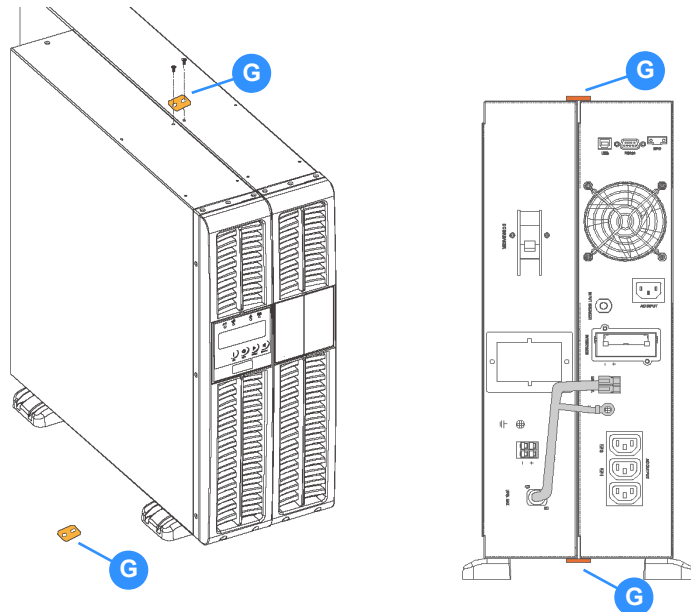

Figure 3.12 Combined tower installation
Figure 3.12 shows the method used to join the battery cabinet to the UPS cabinet. This entails fitting a small cabinet attachment link (G) between the cabinets at the top and bottom and only fitting the feet to the cabinets' outer-edge. Proceed as follows:
Remove the centre screws from mid-way along the cabinet inner-sides where the attachment links (G) are to be fitted. Note that a link is fitted to the top and bottom of the cabinets, as shown in Figure 3.12.